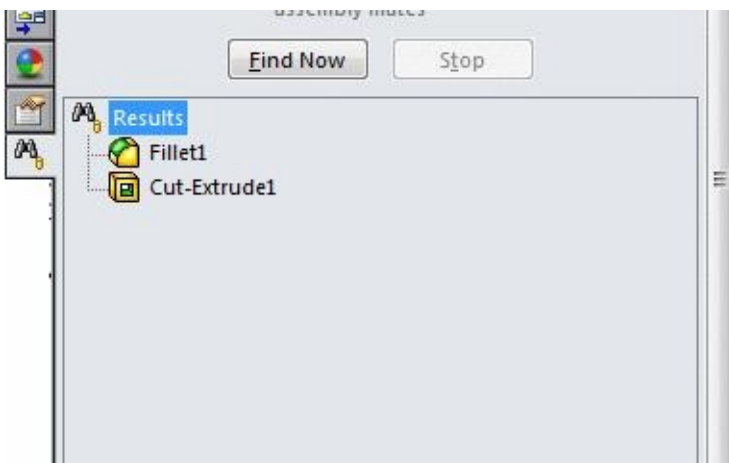

Figure-4. Results in task pane
- Click on the **Find Now** button to find the areas that create complexity in meshing. The complex areas are displayed below **Results** in the **Simplify** task pane; refer to Figure-4.